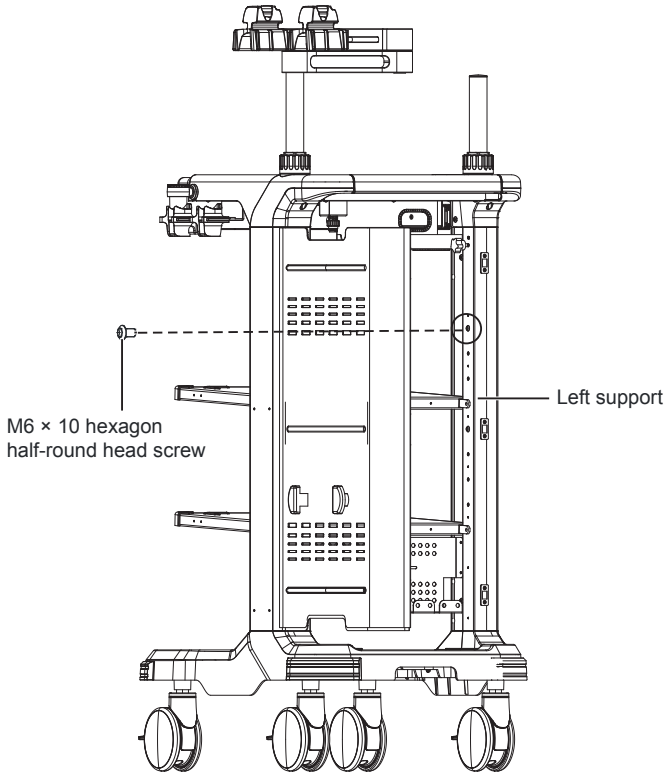

Figure 6 Tightening the Screw on the Left Support
- a. Tighten one M6 × 10 hexagon half-round head screw on the left support by the 4.0 hexagon spanner to avoid swing arm falling, as shown in Figure 6.